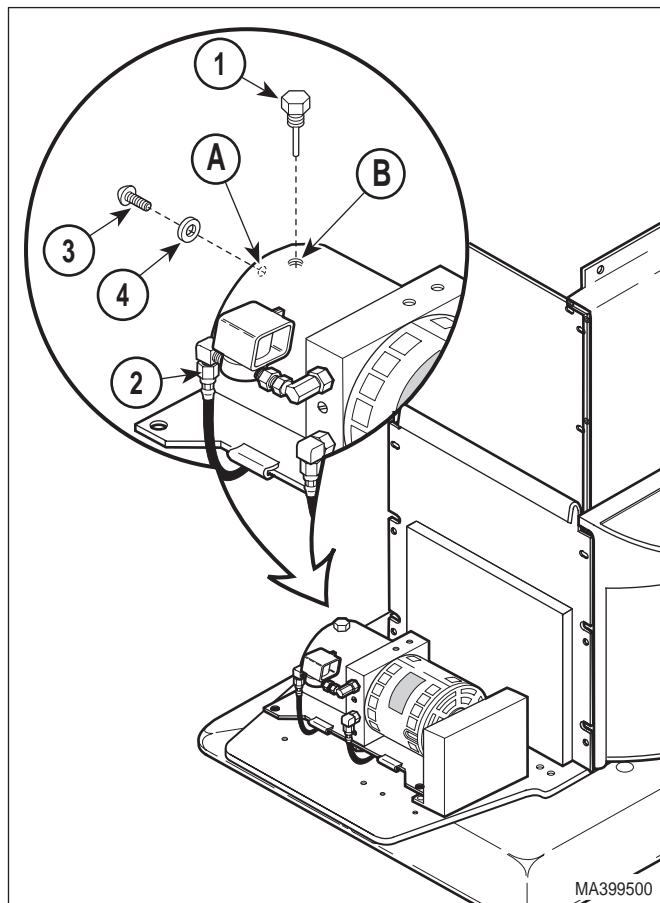

Figure 4-2. Checking / Adding Oil To Motor Pump
- (1) Move the BASE DOWN, BACK DOWN, TILT DOWN, and FOOT DOWN functions all the way down.
- (2) Remove motor cover assembly (Refer to para 4.2).
- (3) Remove filler cap (1, Figure 4-2) from motor pump (2).